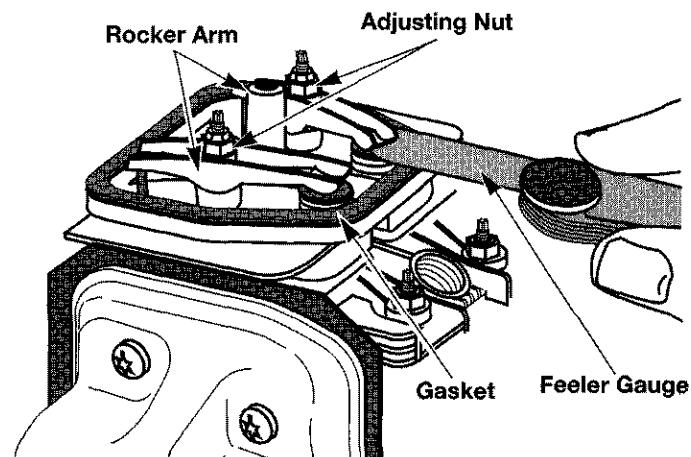

Fig. 34
8. Slide the feeler gauge between the rocker arm and the valve return spring. Measure the clearance between the valve stem and rocker arm (Fig 34). Do both intake and exhaust valves.
- a. Turn the adjusting nut using a 5/16 inch (8 mm) wrench or nut driver (Fig. 34).